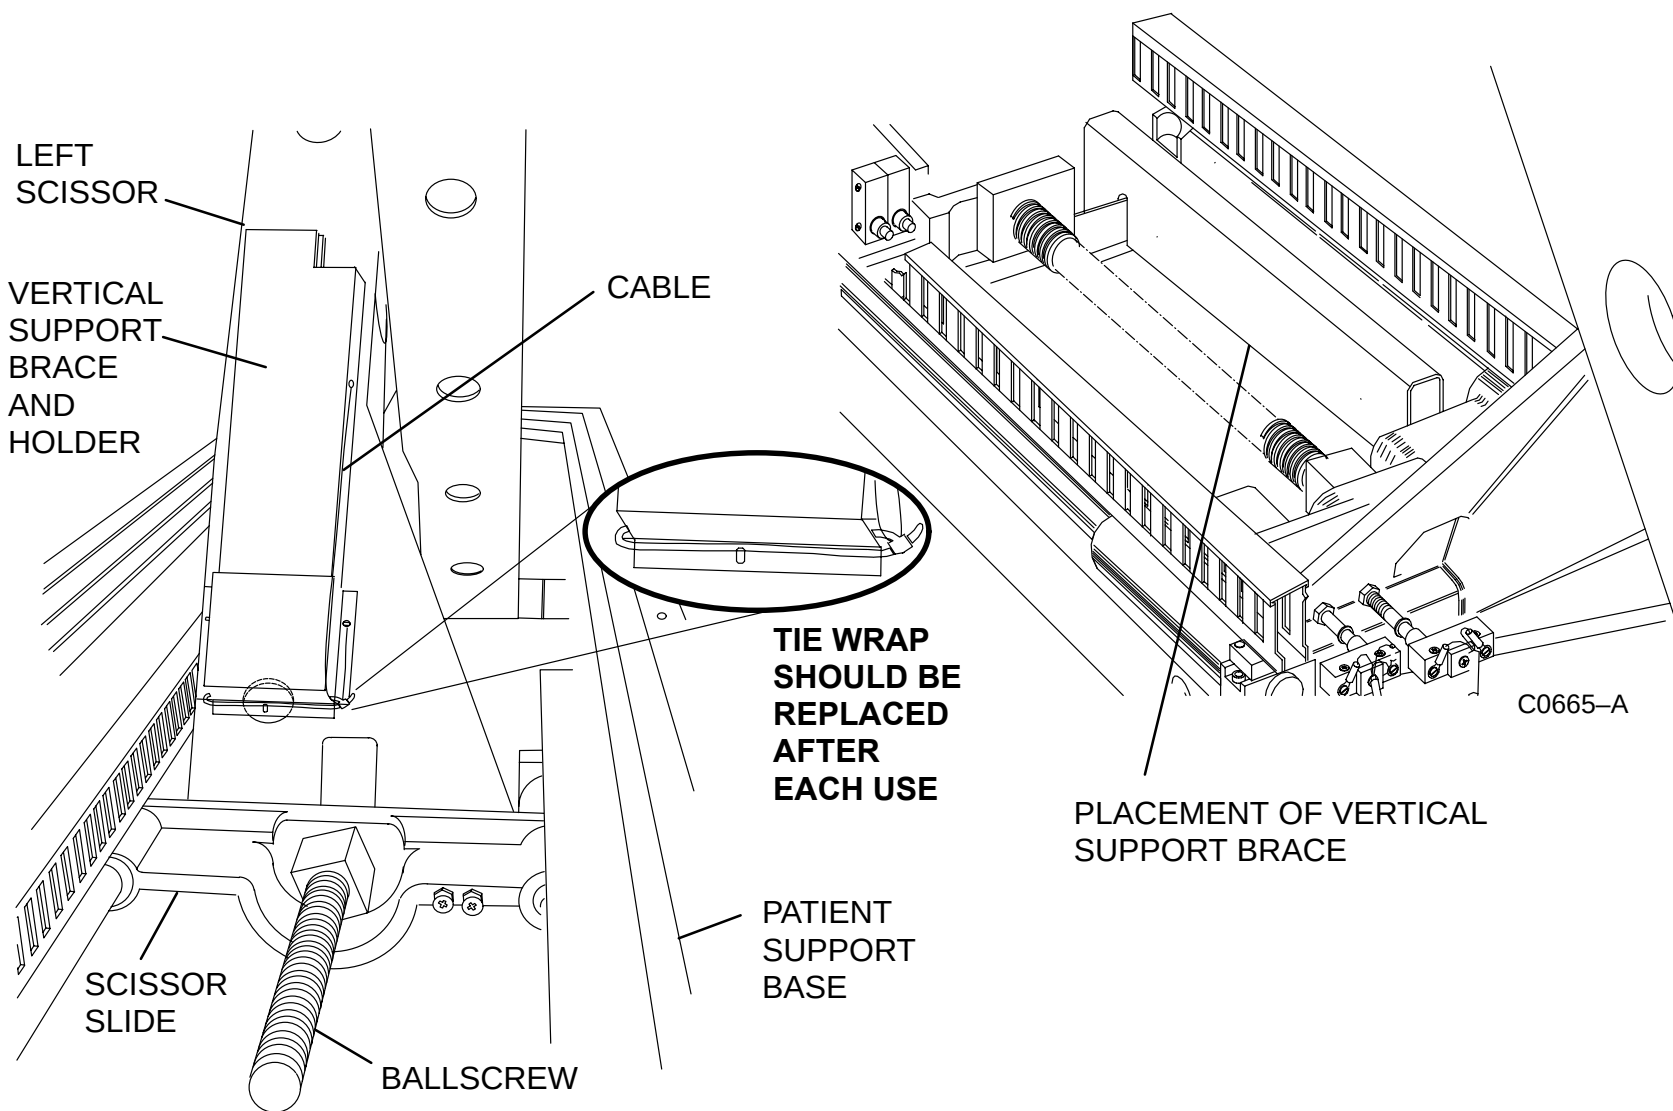

FIGURE 215 VERTICAL SUPPORT BRACE HOLDER & PLACEMENT
6. Locate the green safety vertical support brace mounted to face of scissor. Cut the tie–wrap that confines the brace cable and remove the brace from the holder. Install the brace as shown in Figure 215.
7. Lower the patient support slowly. Stop the scissor carriage just before it touches the brace. Do not drive carriage into brace as this may cause misalignment of the vertical drive mechanism. See Figure 215.
31. Remove the vertical support brace and return it to its holder on the face of the scissor. Refer to Figure 215.
32. Secure the brace cable with an 8 inch long tie-wrap fed through the bottom of the support brace holder. Refer to Figure 215.